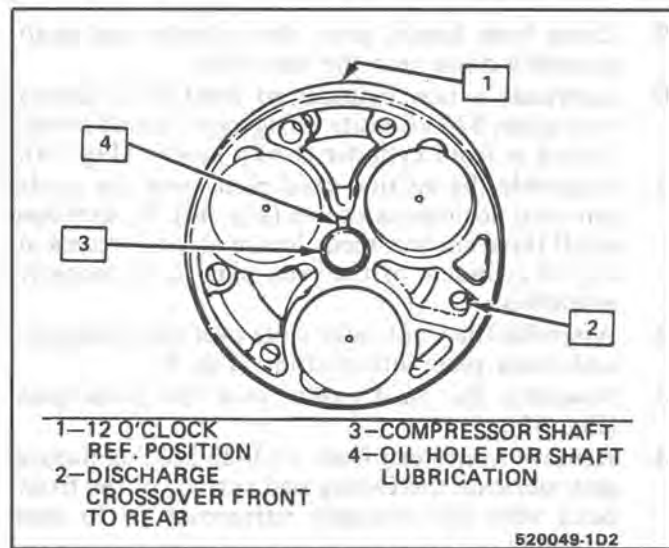

Fig. 48 Rear View and Detail of DA-6 Cylinder and Shaft Assembly
5. Assemble the suction reed plate over the guide pins and position as shown (Fig. 47). Be sure all three (3) suction reed tips cover the suction ports in the rear valve plate or the reed plate is improperly assembled. See recess provision in rear of cylinder for suction reed tip movement (Fig. 48).